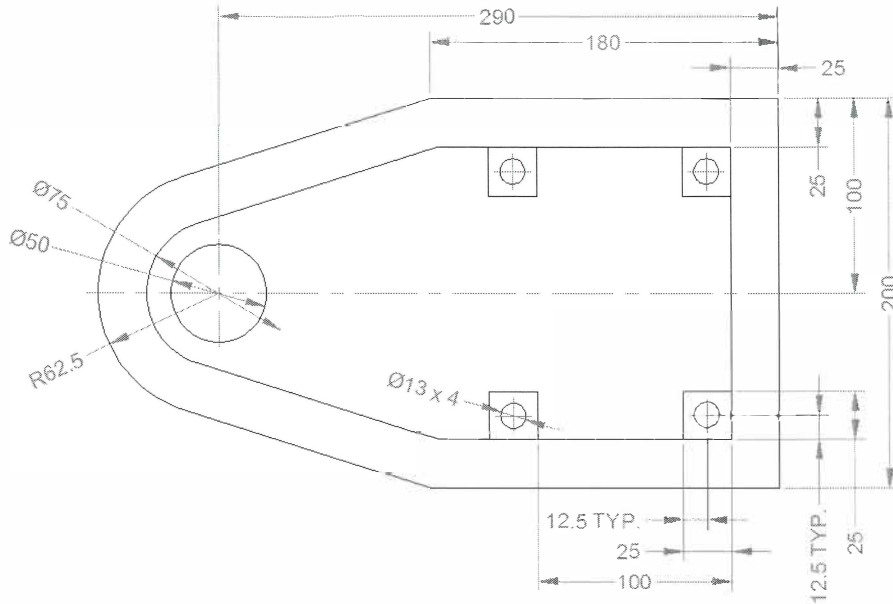

Figure 12-4
2. Draw the objects shown in Figure 12-4 on the layer **Object**. Use **Offset** to help locate the lines correctly. Use **Fillet** or **Trim** to clean up any extra overlapping lines.